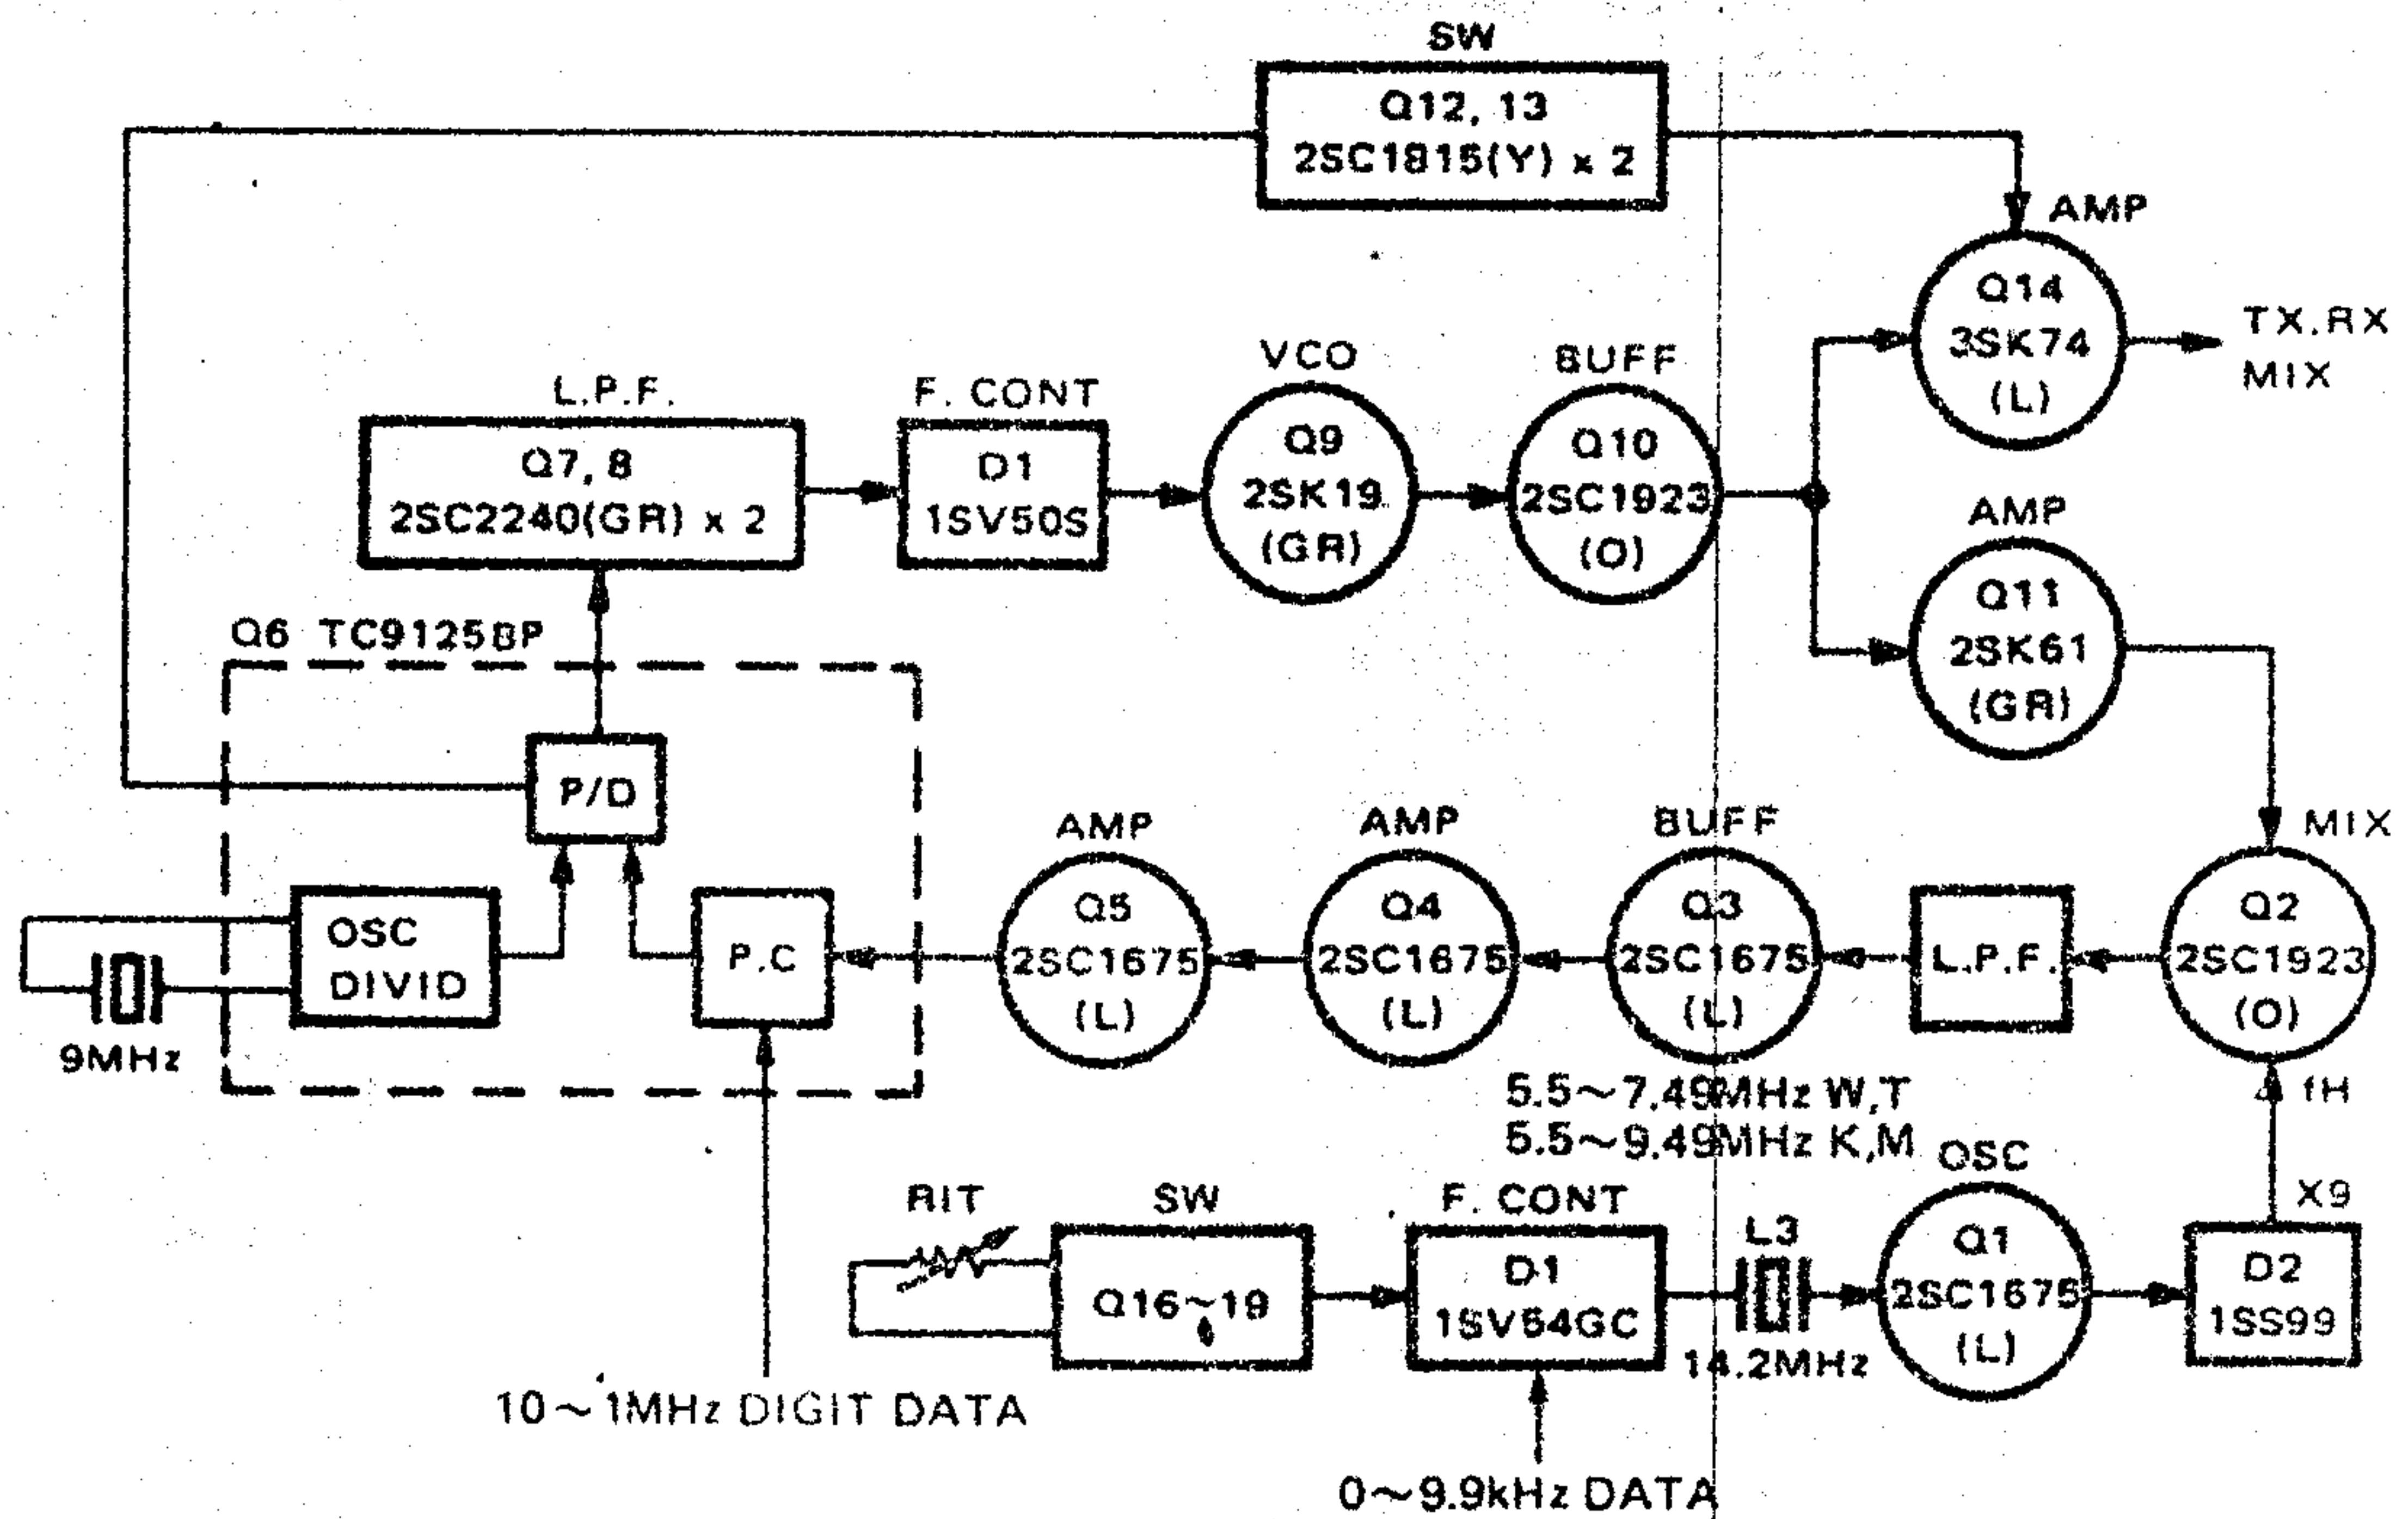

Fig. 3 PLL unit Block diagram
Fig. 3 shows the basic configuration of the PLL circuit. The signal generated by the VCO (Q9: 2SK19 (GR)), after passing through the buffer amplifiers Q10: 2SC1923(O) and Q11: 2SK61(GR), is mixed with the HET (heterodyne) signal by Q12: 2SC1923(O) where it is converted to a 5.5 to 9.49 MHz (K,M), 7.49 MHz (W,T) signal. This signal is amplified by Q3 - Q5: 2SC1675(L) and applied to Q6: TC9125BP. IC Q6 functions as a phase comparator, frequency-divider, and program counter. It compares the phase of the data (1 Mz, 100 kHz, 10 kHz) from the control unit with the phase of the 10 kHz reference signal obtained by dividing down the 9 MHz crystal oscillator. Any error from the reference is output from Q6 as a correction voltage for the VCO. This voltage, having passed the active low-pass filters Q7 and Q8, is applied to the VCO varactor diode to control the VCO Q9.